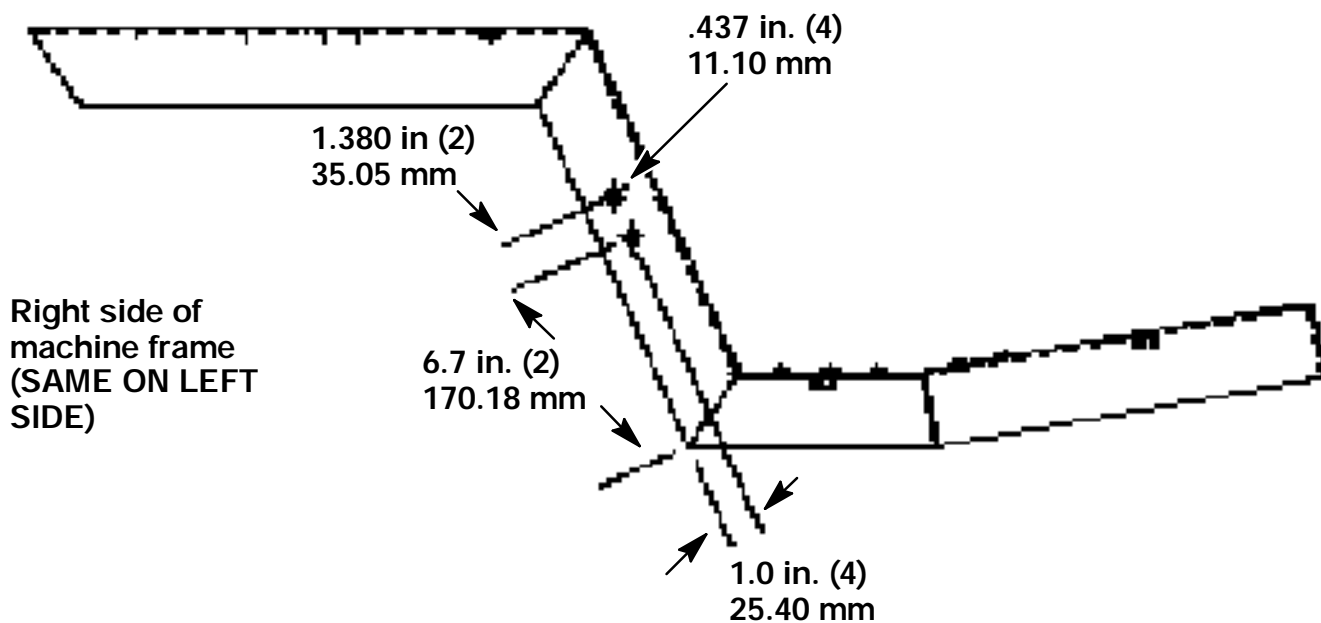

FIG. 1 - Bracket Mount Hole Location Drawing
(Refer to FIG. 1 and 2)
1. Use the dimensions in Fig. 1 to locate, mark, and drill the four mount holes for the two tie-down brackets (1).
2. Install the two tie-down brackets (1) on either side of the machine (pointing down) using four hex screws (2), washers (4), and nuts (3). Tighten tight.